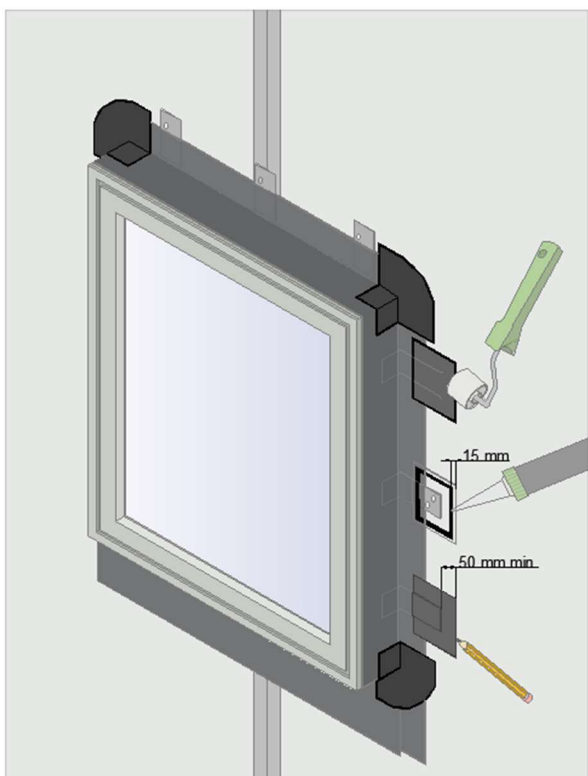

Figure 17
- Place the 'dry' patch in position and use a marker to indicate the proposed location (Figure 17).
- ME220 patches are bonded using illbruck OT015 High Tack Membrane Adhesive. Apply a 10 mm diameter bead of OT015 adhesive 15 mm inside of the line indicating the proposed location of the membrane patch. (Figure 17).
- Gently press the patch in place on to the adhesive ribbon and consolidate with a seam roller until there is a visible uniform 2 – 3 mm wide ooze around the perimeter of the patch. (Figure 17).